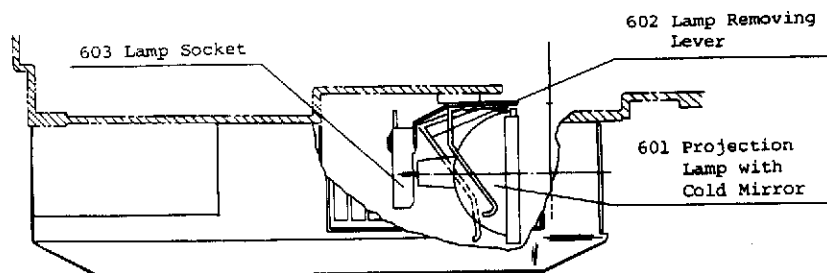

Fig. 5 Lamp House
(1) Replacing the projection lamp (Fig. 5)